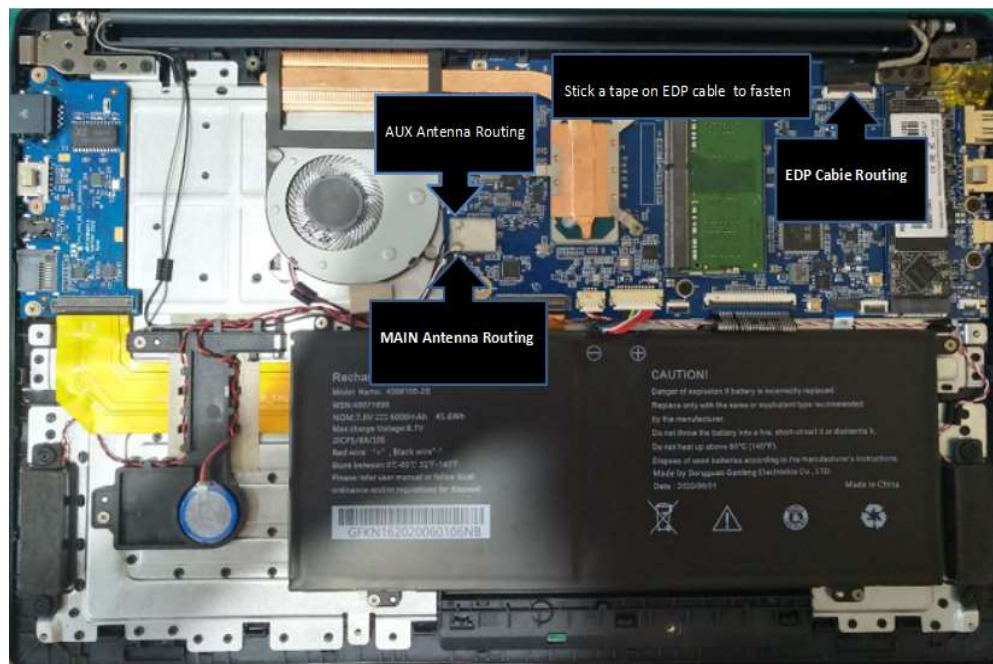

Figure 4-18 Removing the LCD Module assembly
5. Routing antenna cables under Rib on Top cover to secure antenna cables according to Figure 4-18.
8. Routing LCD cable according to Figure 4-18, need to under Rib on Top Cover.